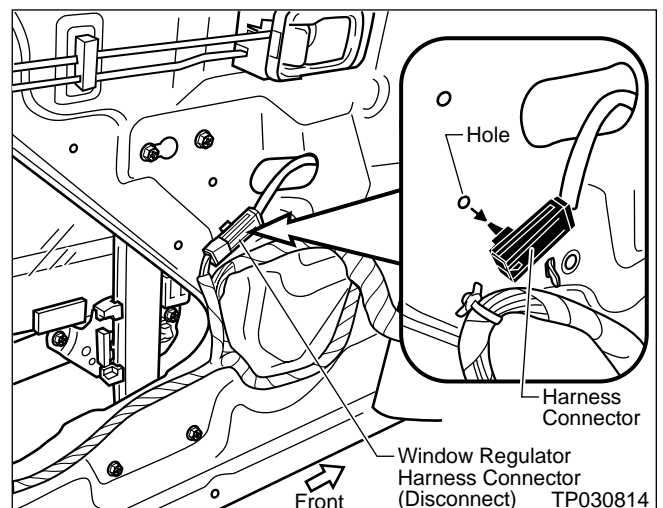

Figure 35
16. Disconnect the Window Regulator Harness Connector (see Figure 35). Then, carefully remove the connector from the door (see Figure 35).